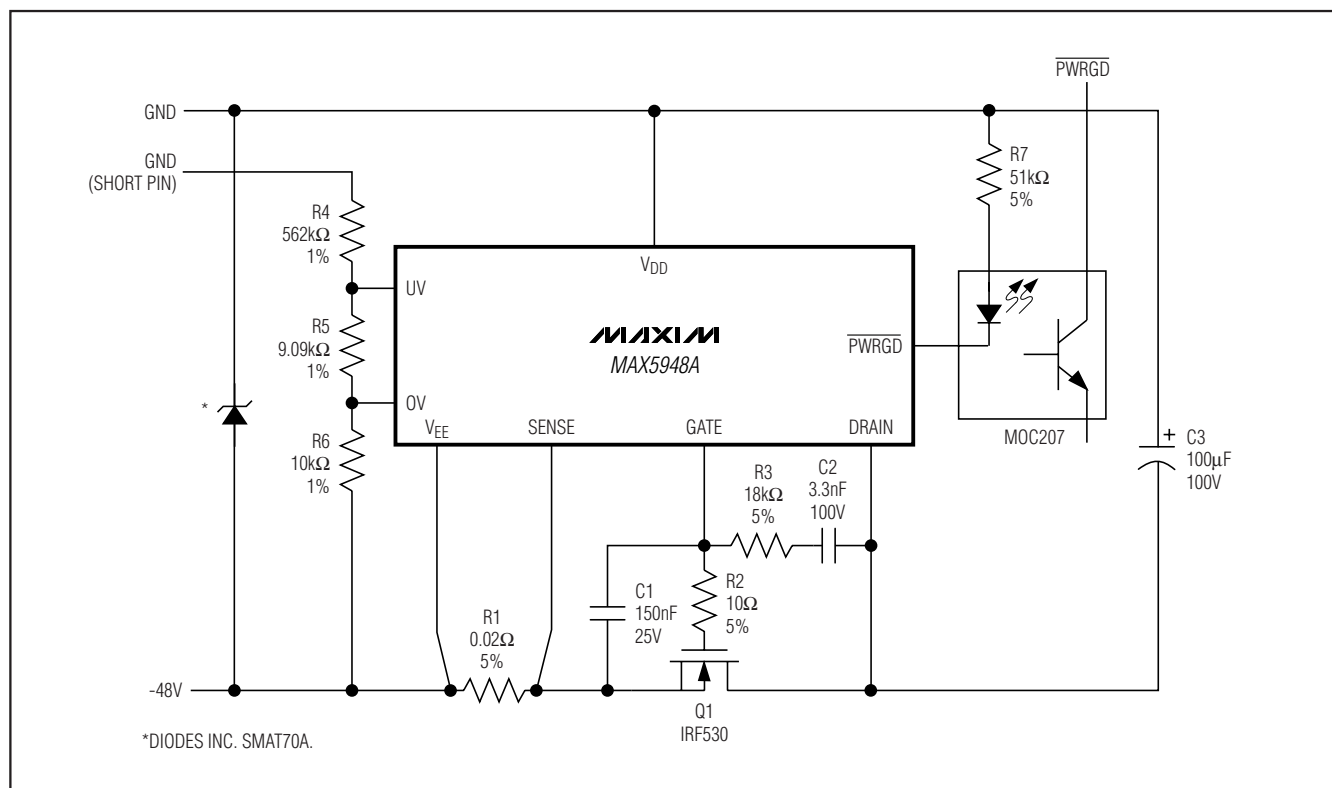

Figure 14. Using  $\overline{\text{PWRGD}}$  to Drive an Optoisolator
- If an optocoupler is utilized as in Figure 14, determine the LED series resistor: